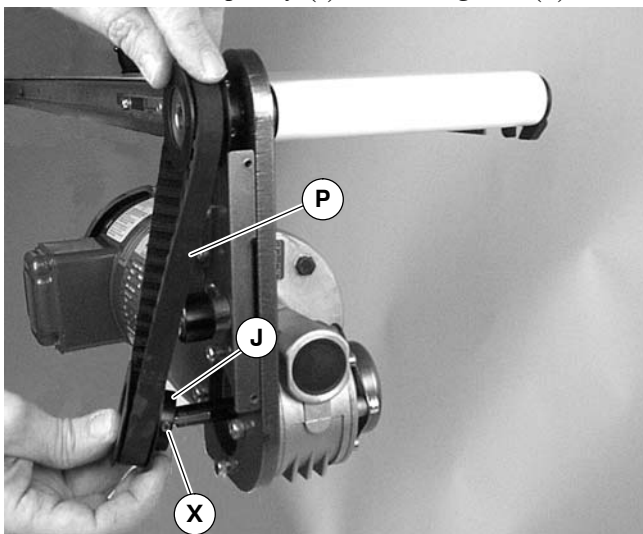

Figure 19
NOTE: If drive pulley (J of Figure 19) is replaced, wrap timing belt around drive pulley and complete step 3.
3. Loosen drive pulley set screws (X of Figure 19). Remove drive pulley (J) and timing belt (P).
NOTE: Drive pulley (J of Figure 19) is removed. Wrap timing belt around drive pulley and complete step 13.